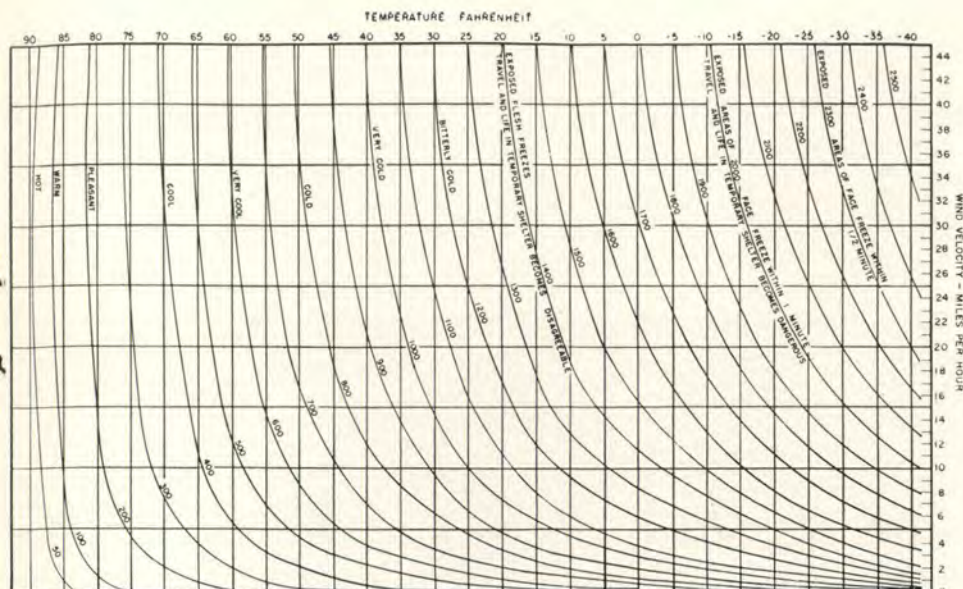

Figure 1. WINDCHILL NOMOGRAM
Frostbite is the freezing of any part of the body; this may be accelerated by wind-chill (Fig. 1). Frost-
- Requested the master drawing and Fig. 1 of Specification MIL-P-5127A be revised to identify the 1:3,000,000 scale as "N.M. on USAF L. R. Nav. Charts (60° to 90° Lat.)."